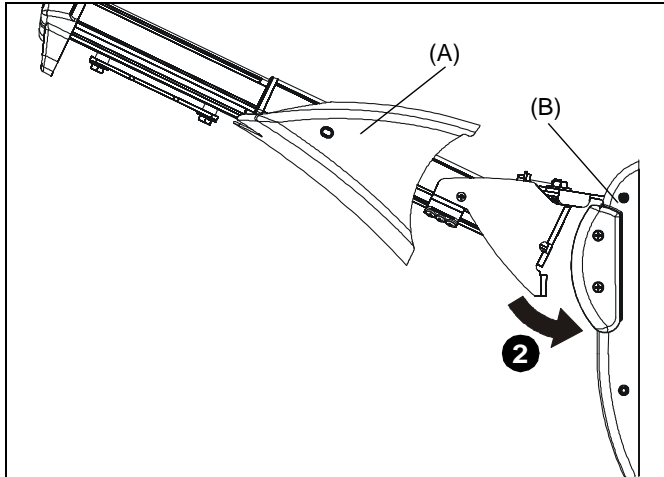

Figure 11
2. Slide lower plate onto cross bracket on mounting bracket. (See Figure 11)